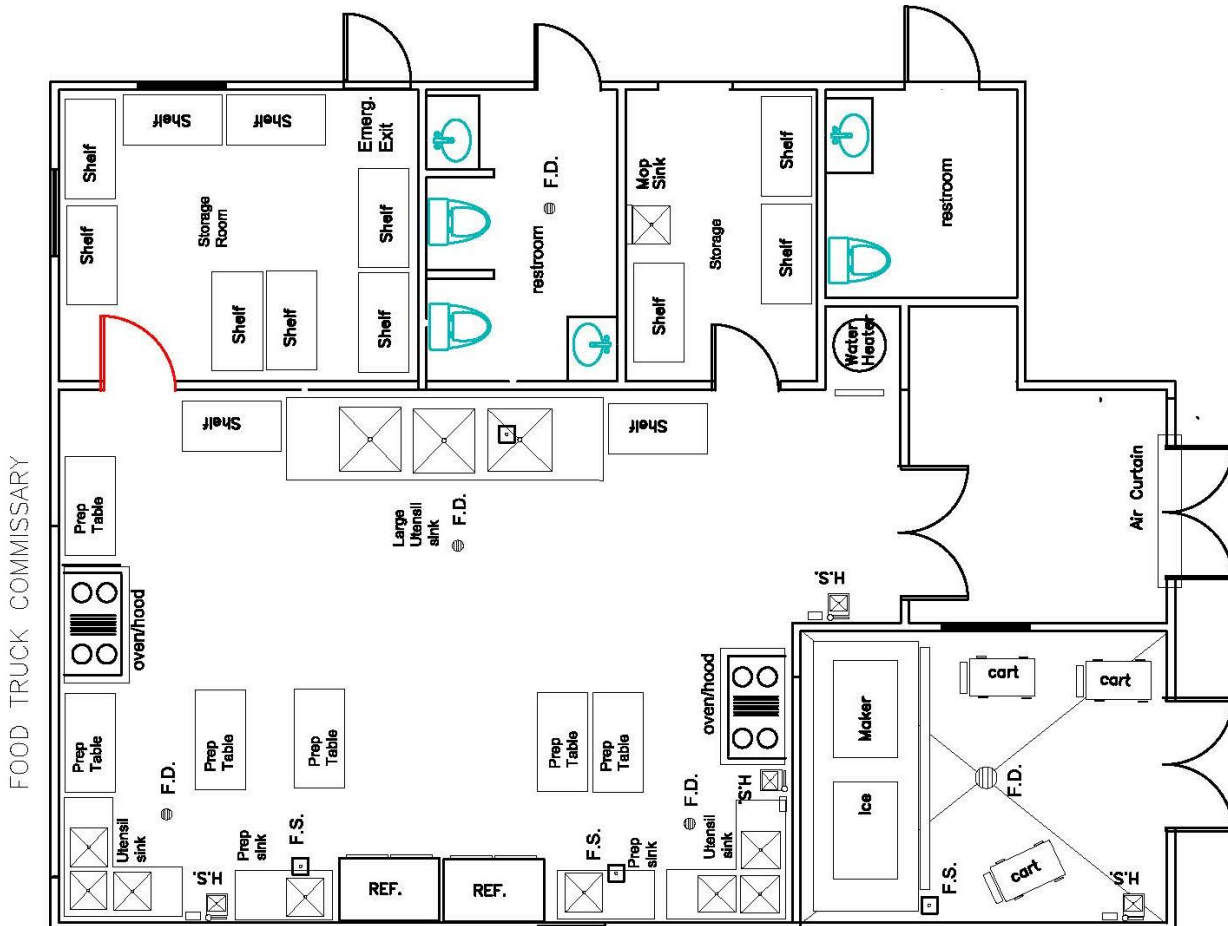

Figure 1
A. Figure 1– Commissary Warehouse